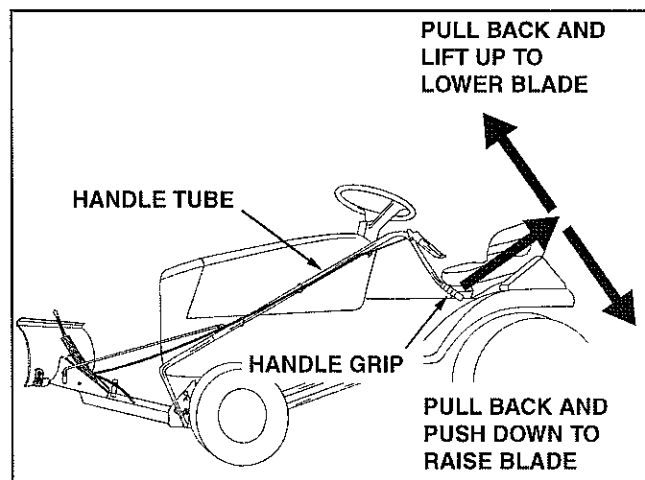

FIGURE 20
1. To raise the blade, use the handle grip located on the end of the handle tube. Pull back while pushing down on the handle grip. To lower blade, pull back while lifting up on handle grip. See figure 20.